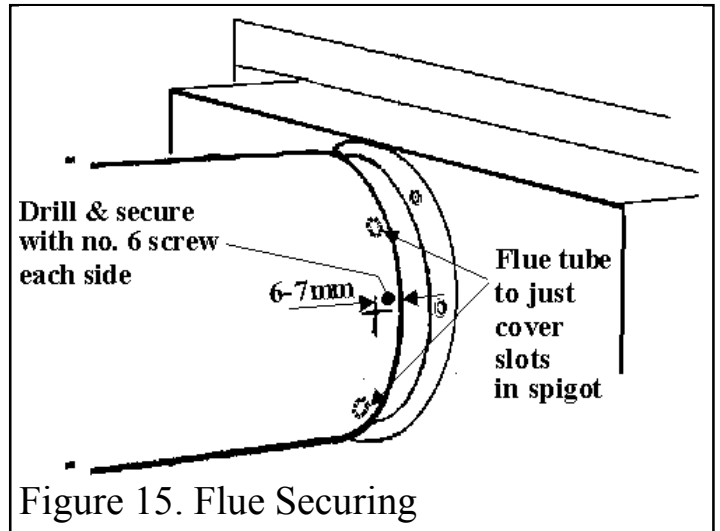

Figure 15. Flue Securing
- Fit the flue tubes firmly over the spigots at the rear of the fire. Make sure that the seam on the flue tube is not at the bottom. Push on until the outer (air) tube just covers the slots in the appliance outer spigot. See figure 15.
securing with the two no.6 self tapping screws supplied. See figure 15.